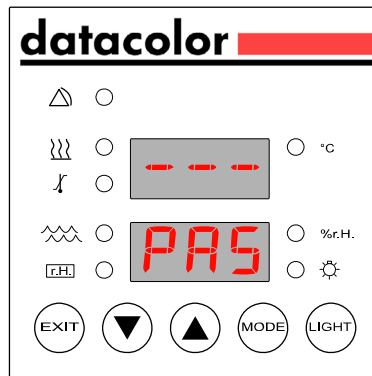

Figure 8: Menu password
- Press button . The menu to key in the password is displayed (Figure 8).